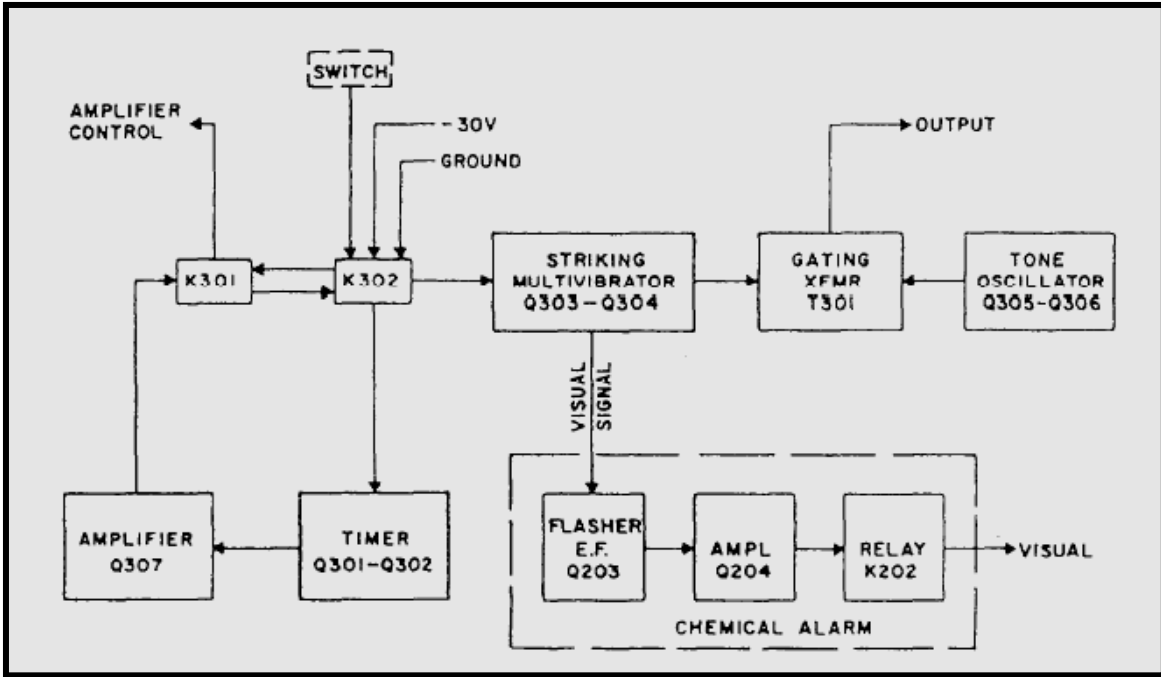

Figure 7-14.— Block diagram of the general alarm module.
**GENERAL ALARM.**— The general alarm consists of a 400-cycle per second rectangular wave oscillator coupled through a gated transformer. A striking multi vibrator supplies current to a diode across the gating winding of this transformer that produces the decaying characteristics of a gong. A timing multi vibrator and relay holds the operating relay in the operating position for a period of 10 to 15 seconds after the alarm contact maker is released. Figure 7-14 is a block diagram of a general alarm module.